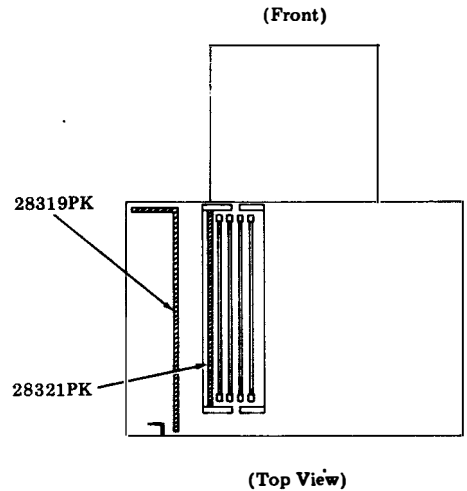

Fig. 10
4.07 Position a 28319PK corrugated detail between the side of the door opening and the controller frame. See Fig. 10.
4.08 Position a 28321PK corrugated detail between the controller frame and the 410251 circuit card. See Fig. 10.